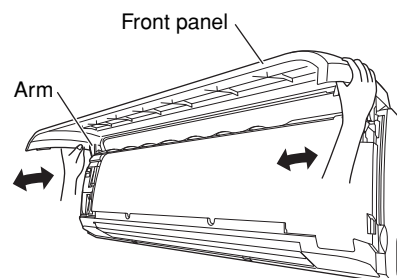

Fig. 16-2
- (1) Open the front panel until it is nearly horizontal, grasp the sections near the front panel arms on both sides, and then pull towards you to remove the front panel. (Fig. 16-2)